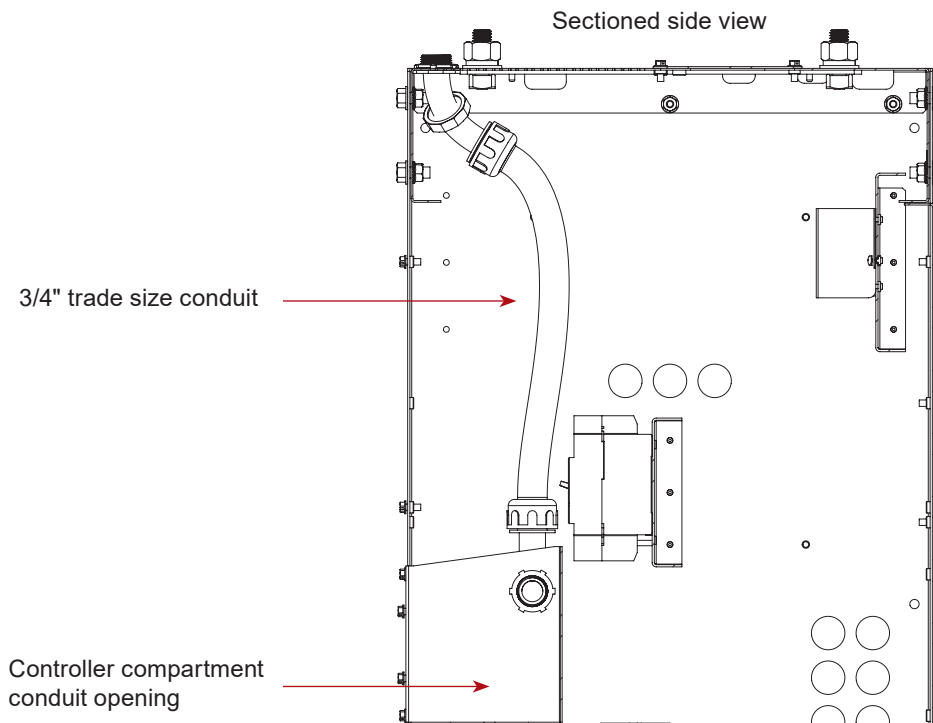

Figure 26 — Signal Wire Conduit
2. Feed signal wires through the conduit openings located at the top front corners of the bay. See Figure 26.